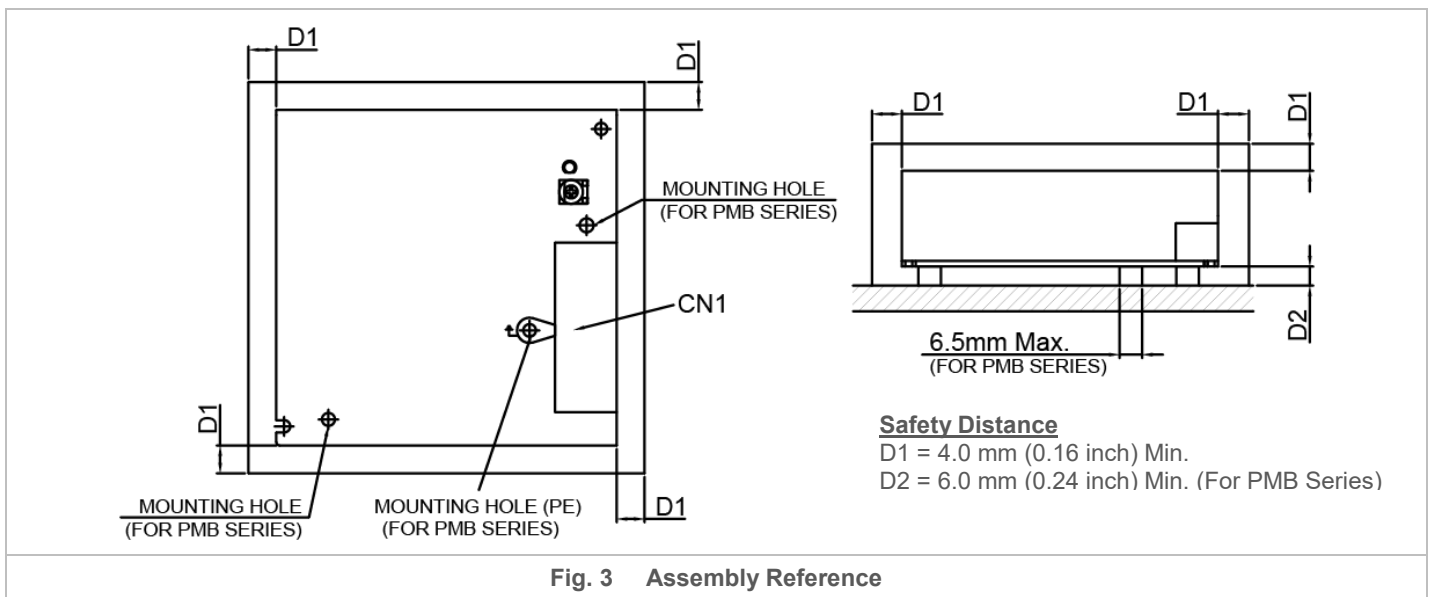

Fig. 3 Assembly Reference
- **For PMB Series: (Refer to Fig. 3):** The mounting holes on any mounting accessories for the device should be kept at a diameter of < 6.5 mm (0.26 inch). This is to ensure sufficient safety distance between the mounting screw and the components around the mounting holes on the PCBA. Therefore, the diameter of the mounting screw should be kept at < 6.5 mm (0.26 inch).